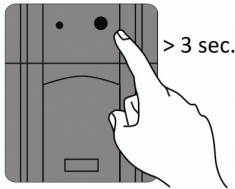
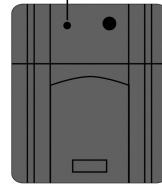

Figure 3.7
Figure 3.8
1. **If the UPS is in Normal Mode:** Switch off your loads safely. Press and hold *On/Off* button until the warning beep silences (Figure 3.7). Observe that the green coloured *Operation Status LED* fades out (Figure 3.8).